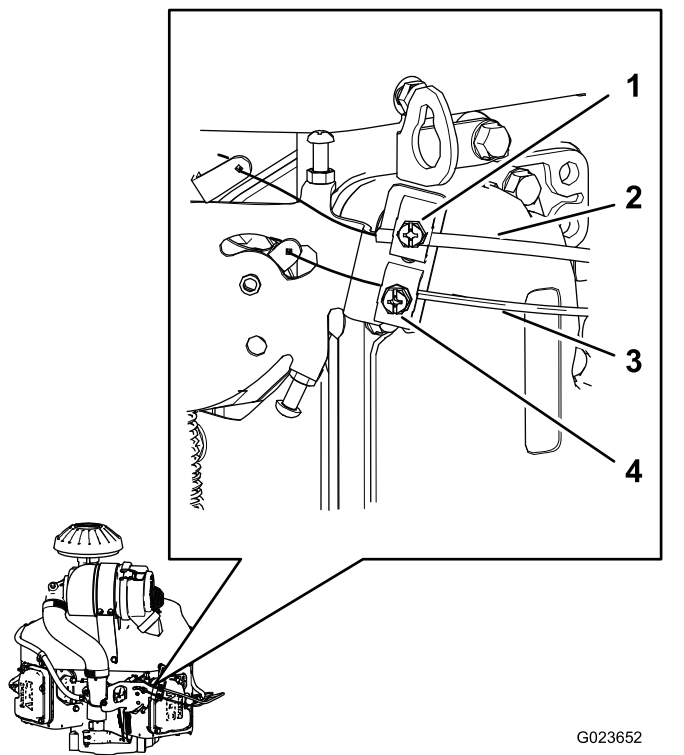

Figure 64
2. Loosen the clamp screw securing the throttle-cable housing to the engine (Figure 64).
4. Pull up the cable housing of the throttle cable (Figure 64) until the throttle cable has almost no slack, and tighten the clamp screw.
2. Loosen the clamp screw securing the choke-cable housing to the engine (Figure 64).
5. Pull up the cable housing of the choke cable (Figure 64) until the choke cable has almost no slack, and tighten the clamp screw.